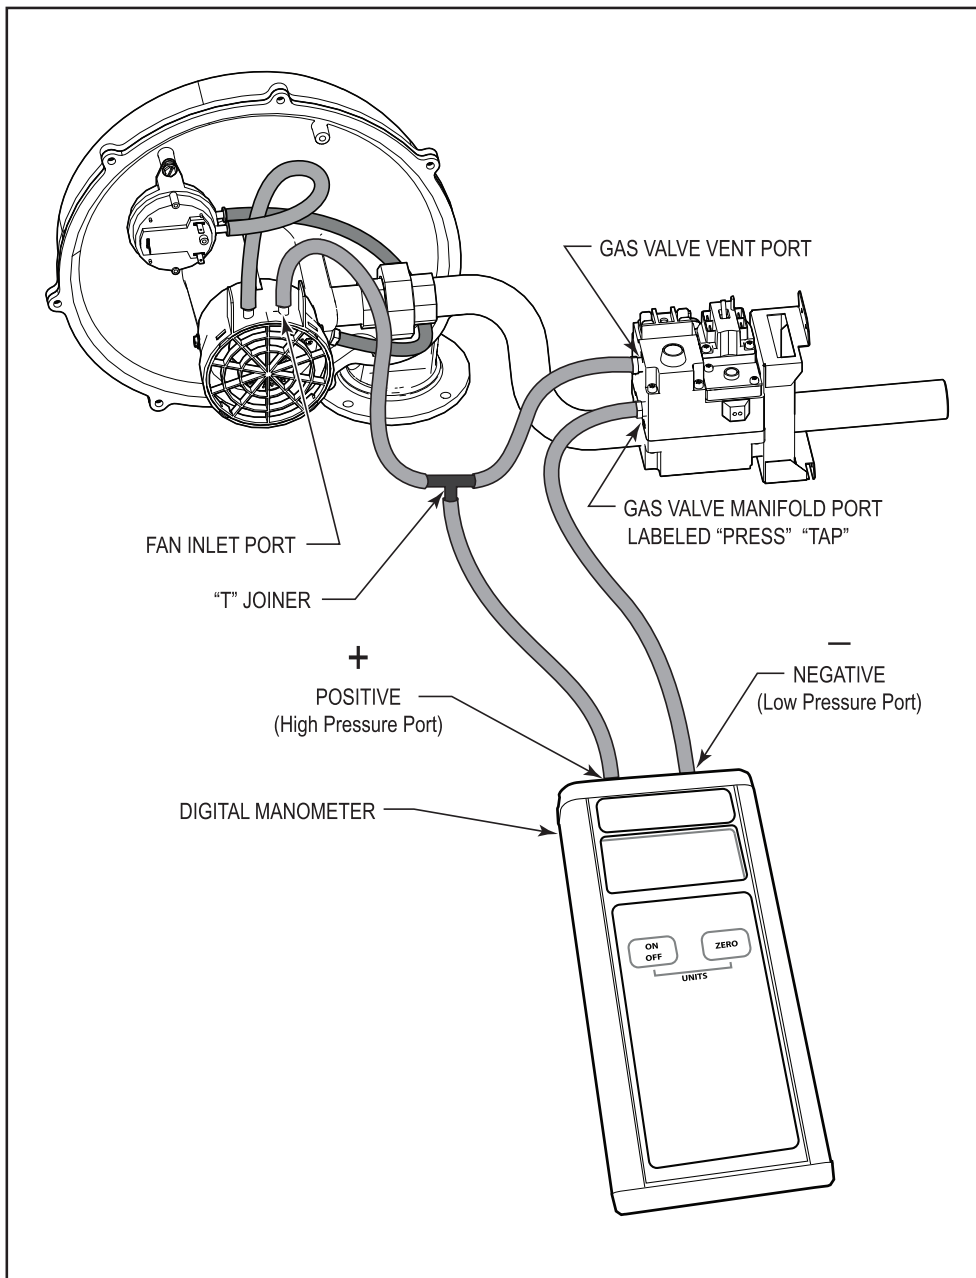

Figure 32. Testing Gas Offset Pressure
3. Test the offset pressure with the heater running using a digital differential pressure manometer. Connect a tee to the hose from the fan inlet port (see Figure 32) on the blower.
4. Connect a shorter hose from the gas valve vent port to the opposite side of the tee (see Figure 32).
5. The manometer has a positive (high pressure) port and a negative (low pressure) port. Connect a hose on the third joint of the tee to the positive (high pressure) side of the manometer (see Figure 32).
7. Connect one end of a hose to the gas valve manifold port and the other end to the negative (low pressure) side of the manometer (see Figure 32).